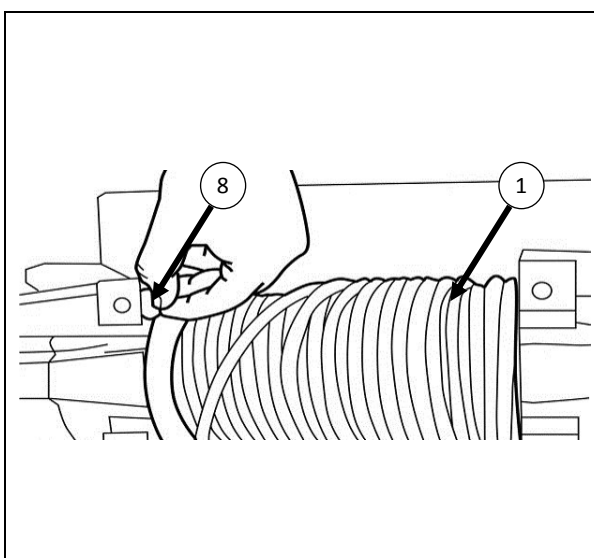

Figure 42: Install Winch Nuts
- Set 4X Nut Lock Flange Hex M10 x 1.5P (Item 8) into pockets on underside of Winch (Item 1) feet as shown in Figure 42.